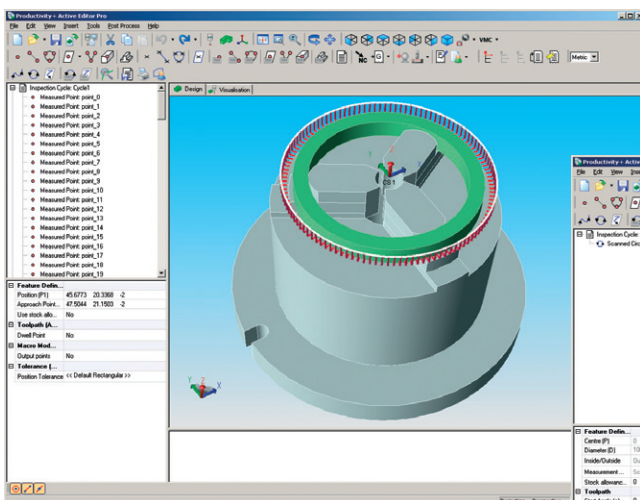

Figure 4: touch-trigger method with individual inspection points
- A touch-trigger probe is used to measure a series of 121 points on the outer circumference of the feature (figure 4)